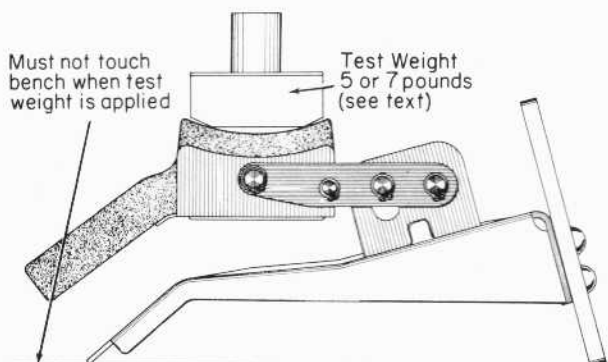

Fig. 11 - Testing Wick Lubricator Springs
5. Check lubricator spring pressure by placing a weight on the wick as shown in Fig. 11. Use a seven (7) pound weight for new assemblies and five (5) pounds for used ones. Springs should be replaced with set 8174224 if the weight depresses the wick to the extent that the tip touches the work bench or bottoms against the baffle plate.